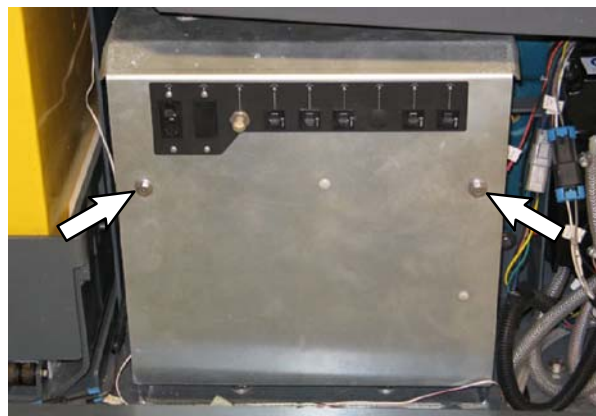
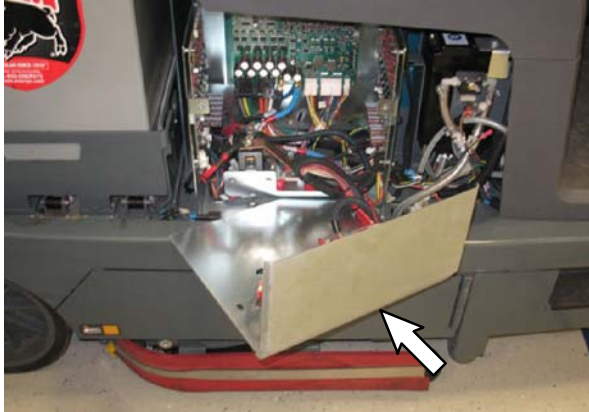

FIG. 1
FIG. 2
1. Remove the SEMS M6 hex screws securing the electrical enclosure cover to the electrical enclosure. Set the SEMS M6 hex screws aside. (Fig. 1)
- Carefully remove the electrical enclosure cover from the electrical enclosure and position the electrical enclosure cover out of the way. **Do Not** break or damage wires / wire connections when removing the electrical enclosure cover from the electrical enclosure. (Fig. 1 / Fig. 2)
- Reinstall the electrical enclosure cover onto the electrical enclosure. (Fig. 1)